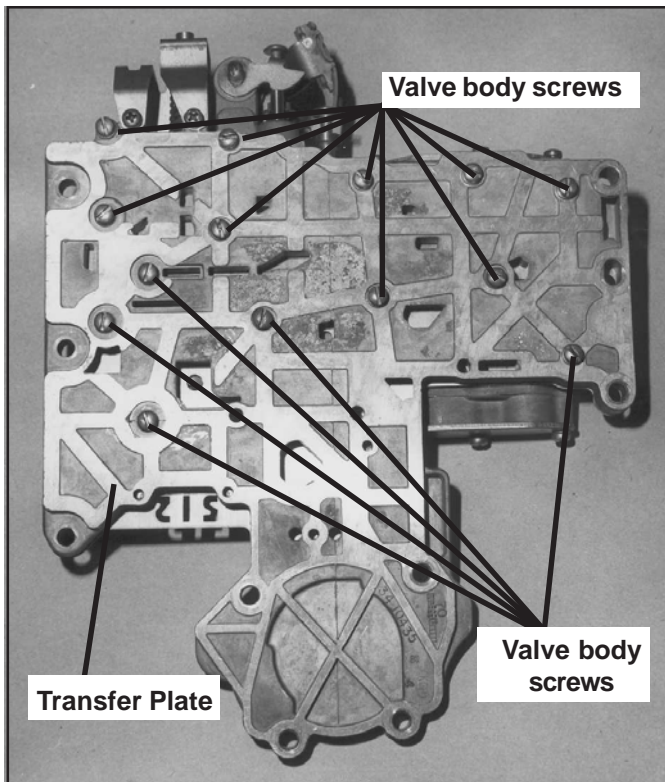
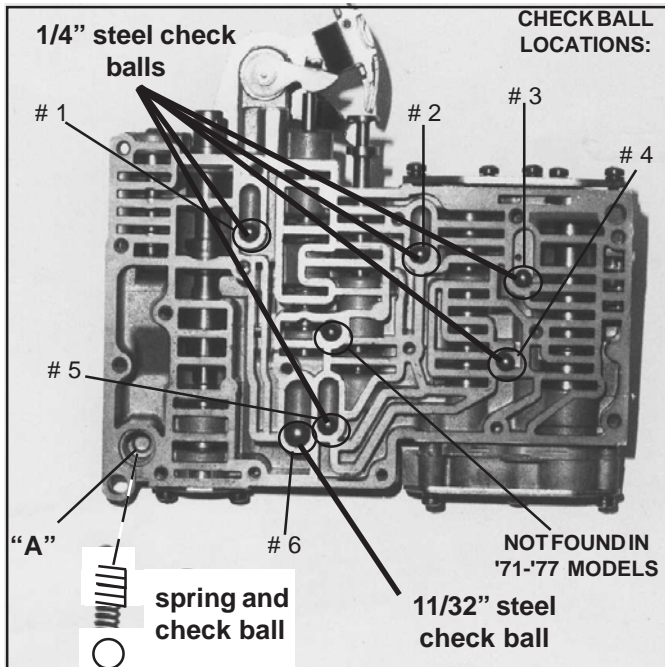

Figure 6
Figure 7
STEP 7. Valve Body Disassembly: (See Fig. 6) Remove the valve body screws from transfer plate. There will be fourteen of them, with either Phillips or slot heads. Hold the casting and transfer plate together with one hand while removing the last screw so you won't lose any internal parts. Carefully lift the transfer plate assembly off the casting to expose the oil passages. Turn the transfer plate assembly over so the separator plate is facing up and set it to your right. Inspect your casting for the following: (See Fig. 7)
Five 1/4" diameter steel check balls in locations 1 thru 5 and one 11/32" diameter steel check ball in location 6. (See Fig. 7) Remove these and place them in the tray.
STEP 12. Lay casting in front of you and install steel Check balls as follows: (See Fig. 7)